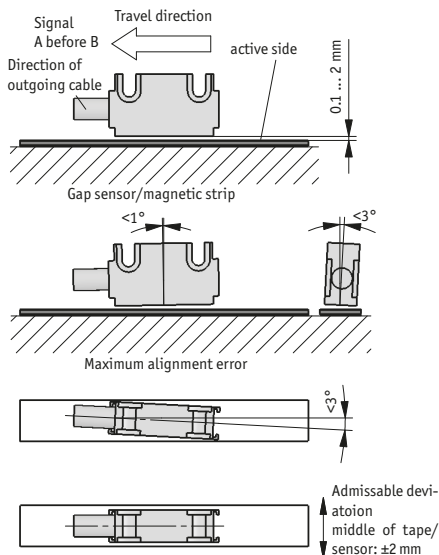

Fig. 6: Definition of the counting direction with magnetic strip and assemblage sensor/magnetic ring, gap measure, tolerances
- Observe the correct alignment with regard to the counting direction (fig. 6 and 7). This does not apply if the counting direction can be reversed in the electronic interpretation (e. g. in SIKO's magnetic-strip displays).